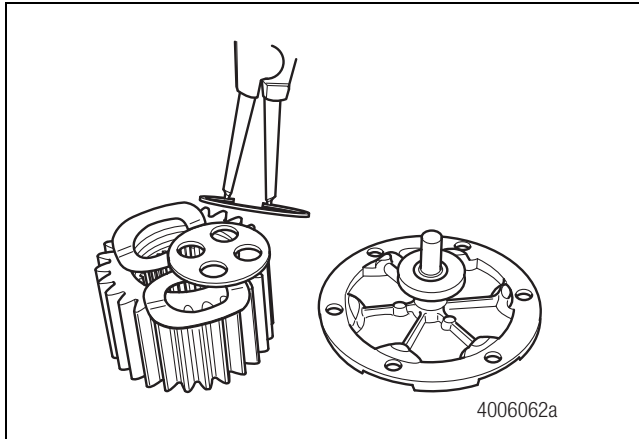
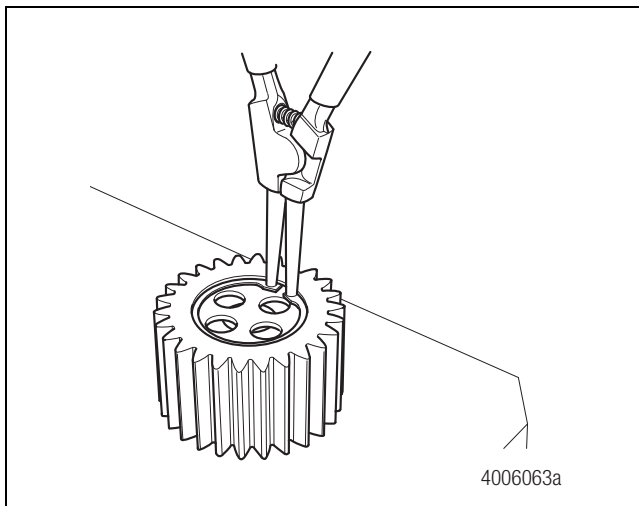

Figure 5.22
Figure 5.23
1. If removed, install the spring washers and thrust washer into the sun gear. Install the snap ring. Figure 5.22 and Figure 5.23.